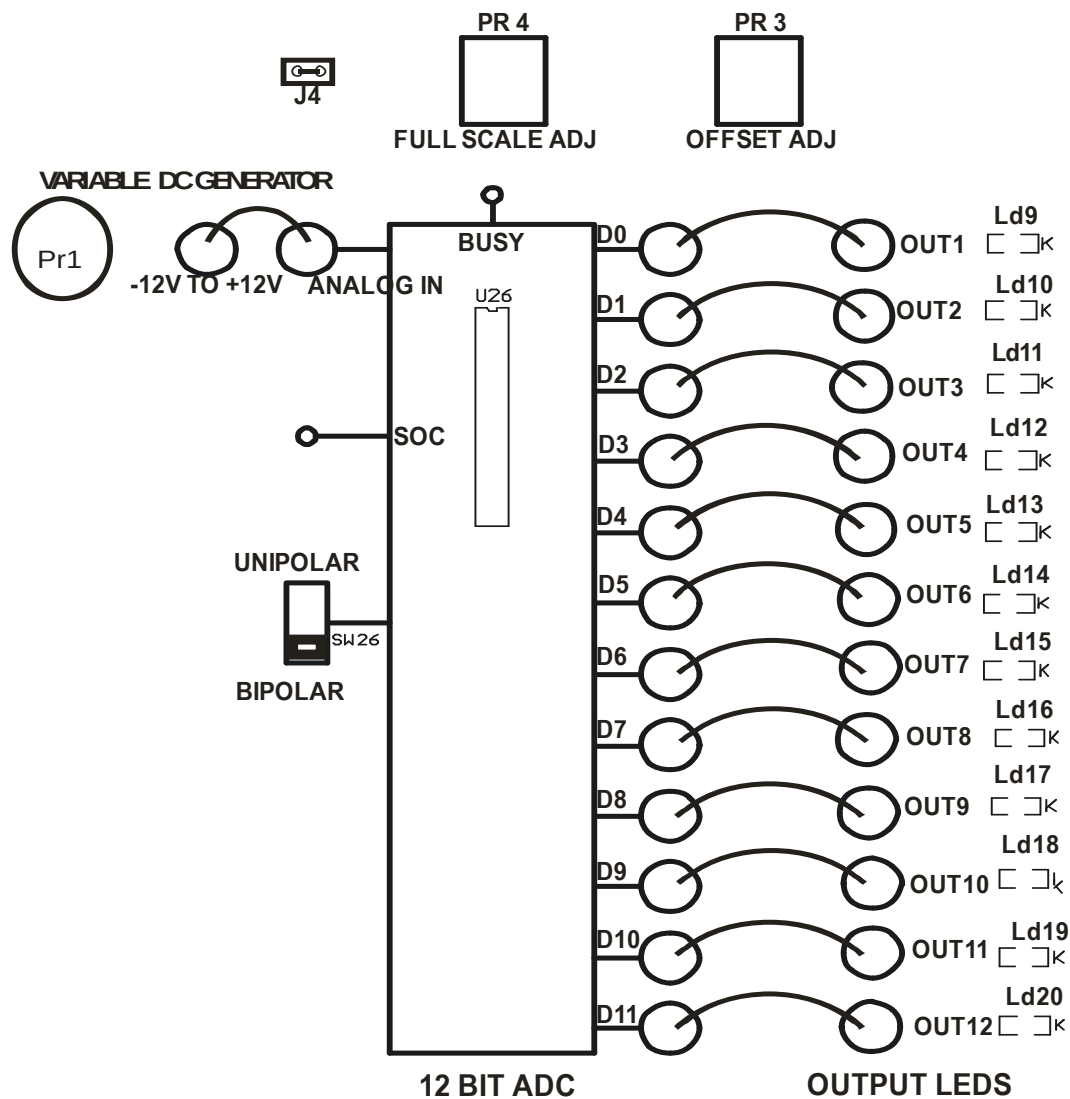

FIGURE-7.2
1. Make the connection as shown in FIGURE-7.2, move the slider switch SW26 in bipolar mode, connect the jumper J4.